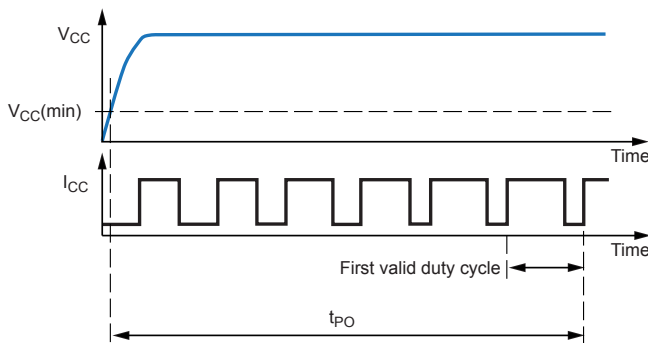

Figure 1. Definition of Power-On Time
**Power-On Time.** When the supply is ramped to its operating voltage, the device requires a finite time to power its internal components before supplying a valid PWM output duty-cycle. Power-On Time,  $t_{PO}$ , is defined as the time it takes for the output voltage to settle within  $\pm 10\%$  of its steady state value after the power supply has reached its minimum specified operating voltage,  $V_{CC}(\min)$ . (See figure 1.)